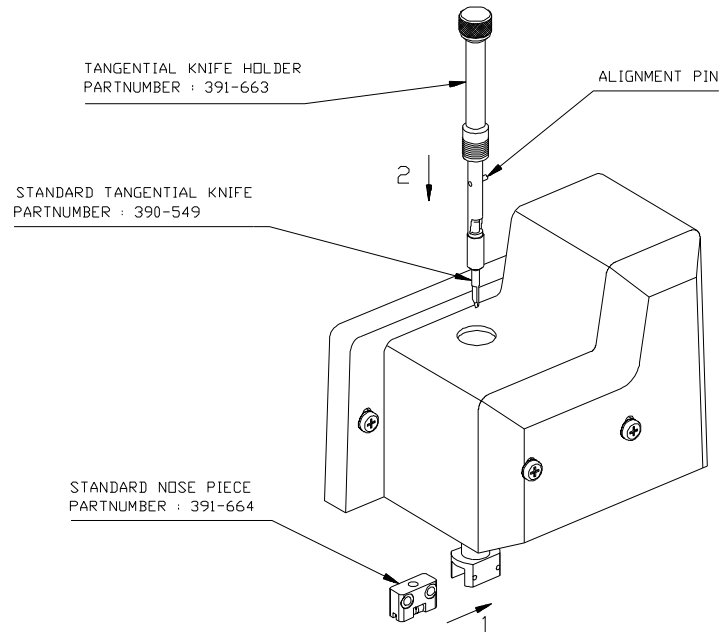

FIGURE 1-5 :
2. Insert the **grey** nose piece as shown in Figure 1-5 until it snaps into the nose piece holder.
3. Gently insert the knife into the tool shaft as shown in Figure 1-5. Hold the nose piece in place with one hand, with the other hand turn the knife holder anticlockwise until the alignment pin fits into the small notch of the tool shaft. Now turn clockwise until the knife holder gets grip in the tool shaft.